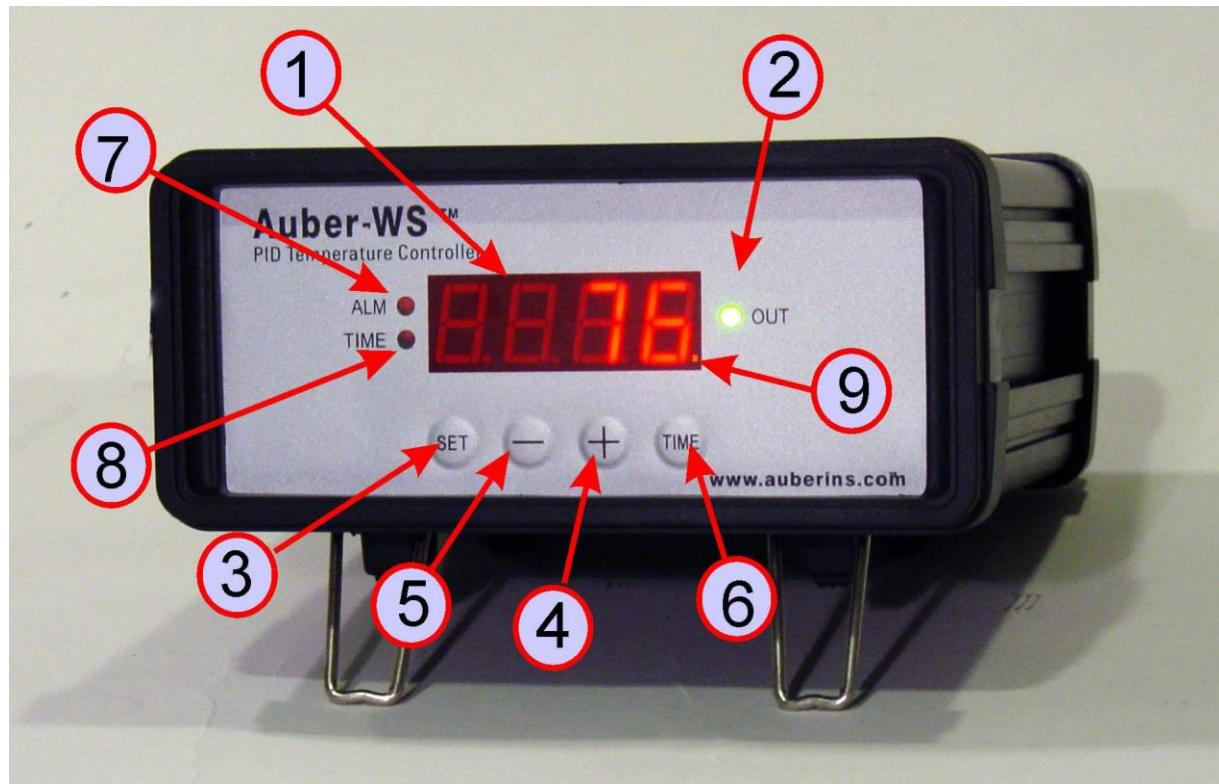

Figure 1. Front Panel.
The front panel of the controller is shown in Figure 1. The function of each item is described below:
At normal operating mode, press the “+” key (item 4 in Figure 1) to toggle the display window between the current temperature and the current step number at which the program is running (P-X). At time displaying mode, press the “Time” key to toggle the display between the total time (in minutes) since the controller was powered up and the time past in the current step. For example, the controller has been running for 100 minutes in total, but currently it is at step 2 for 40 minutes. So when you first press “+” key, controller will show “P-2” in the window. If then you
At normal operating mode, press the “Time” key (item 6 in Figure 1) once to toggle the LED window between the current temperature and the total time (in minutes) since the controller was powered up. The Time Indicator (item 8 in Figure 1) will lit at same time. When the time is being displayed, press the “+” key will toggle the display between the total running time and the running time of the current step. For example, the controller has been running for 100 minutes in total, but currently it is at step 2 for 40 minutes. So when you first press “Time” key, controller will show “100” in the window with the Time Indicator lit. If then you press “+” key, the controller will show “P 40” while the Time Indicator still lit.